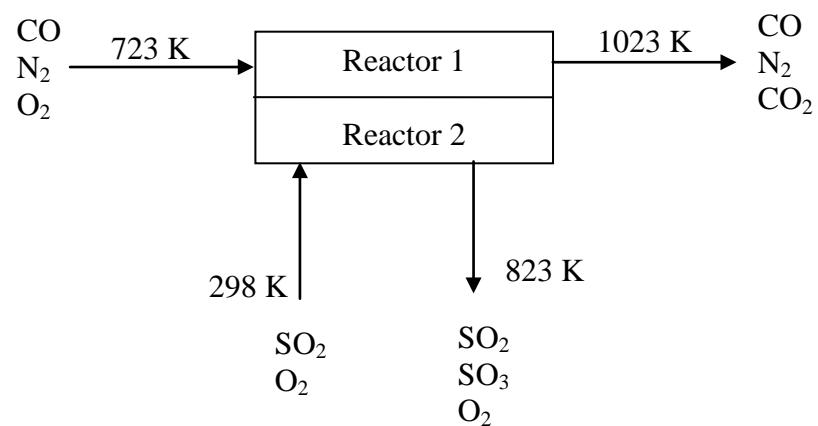

Figure Q.4.:  $\text{SO}_2$  oxidation
4. Carbon monoxide ( $CO$ ) is burned with 80% of theoretical air and the combusted gasses are used to heat up the oxidation of sulfur dioxide ( $SO_2$ ) and oxygen ( $O_2$ ) (entering at a mol ratio of 1:1) to sulfur trioxide ( $SO_3$ ) as shown in the Figure Q.4. The chemical reactions occurred in both the reactors are shown below. The gasses involved in the  $SO_2$  oxidation do not come in direct contact with the combustion gas used to heat the  $SO_2$  reactants and products. Determine the volumetric flow rate ( $m^3/hr$ ) of CO required at standard temperature and pressure to process 250 mol/hr of  $SO_2$  assuming the process is adiabatic and operated at a steady state condition.